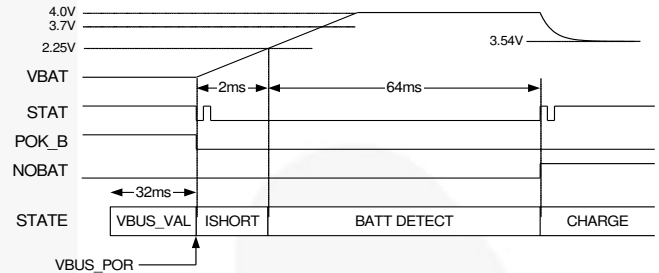

Figure 39. Battery Absent After VBUS POR
The FAN54020 detects if the battery is absent if  $V_{BAT}$  is below 2.25 V at the start of charging. To accomplish this, the IC raises  $V_{OREG}$  to 4.0 V for up to 128 ms after  $V_{BAT}$  is above 2.25 V. After 64 ms,  $V_{BAT}$  is compared to 3.7 V. If  $V_{BAT}$  rises above 3.7 V at any time in that 64 ms period, the battery is assumed to be absent (see Figure 39).
1. If  $V_{BAT} < V_{SHORT}$ , a battery absent/present test described in Figure 39 is performed;